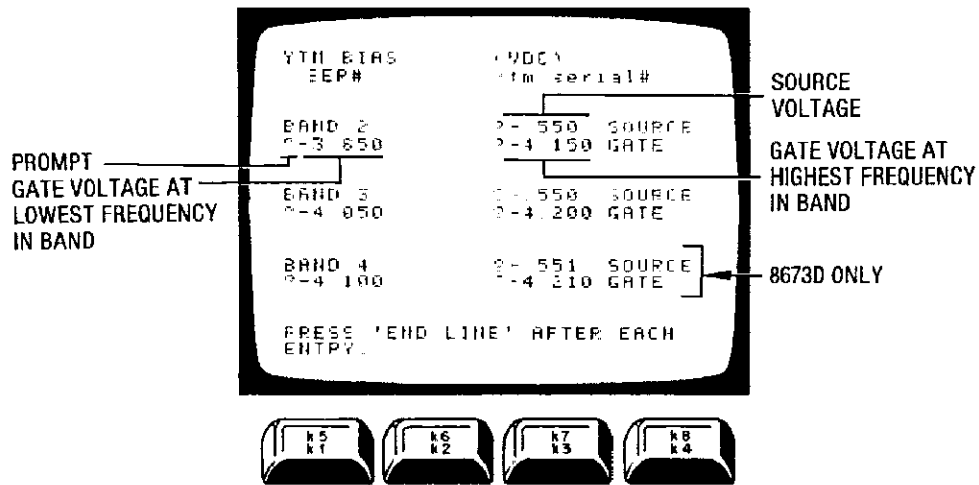

Figure 5-19. Format for Entering SRD Bias Voltages for HP 8673C/D
- a. Source and gate dc bias voltage values are entered into the controller as shown in figure 5-19. The bias voltages are listed on the YTM label located inside the Signal Generator near the A2A5 assembly on the A2 Controller chassis. The question mark (?) is used as a prompt to indicate when and where data should be entered.